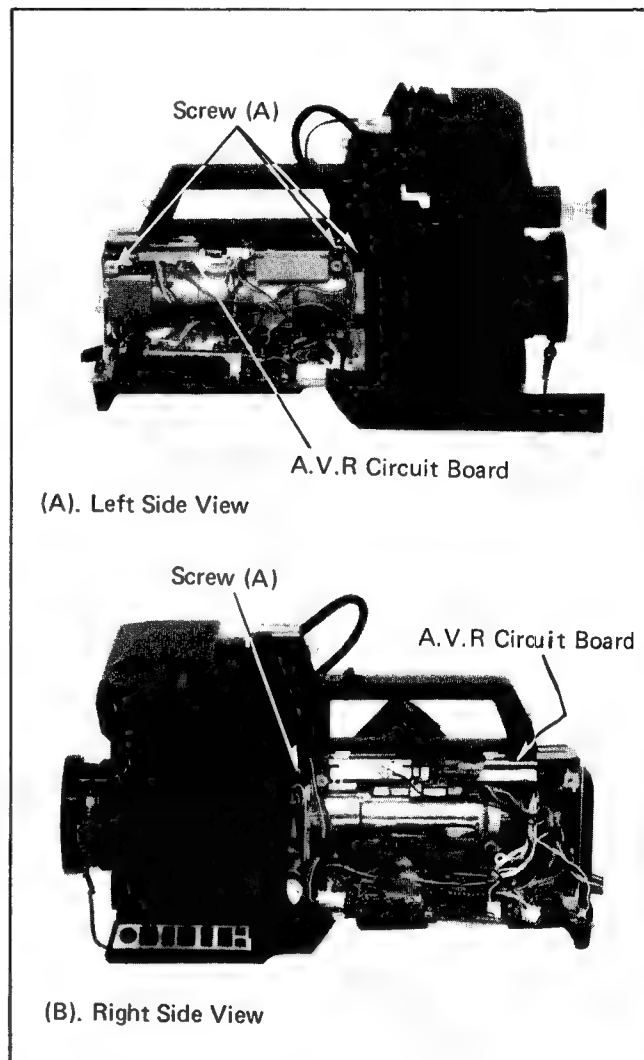

Fig. 12.
- 4-2. Unscrew 4 screws (A) and remove the A.V.R circuit board (see Fig. 12-A/B).